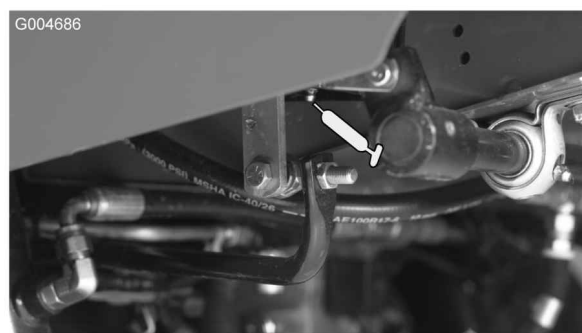

Figure 35
- Traction pedal pivot bushing (1) (Figure 35)